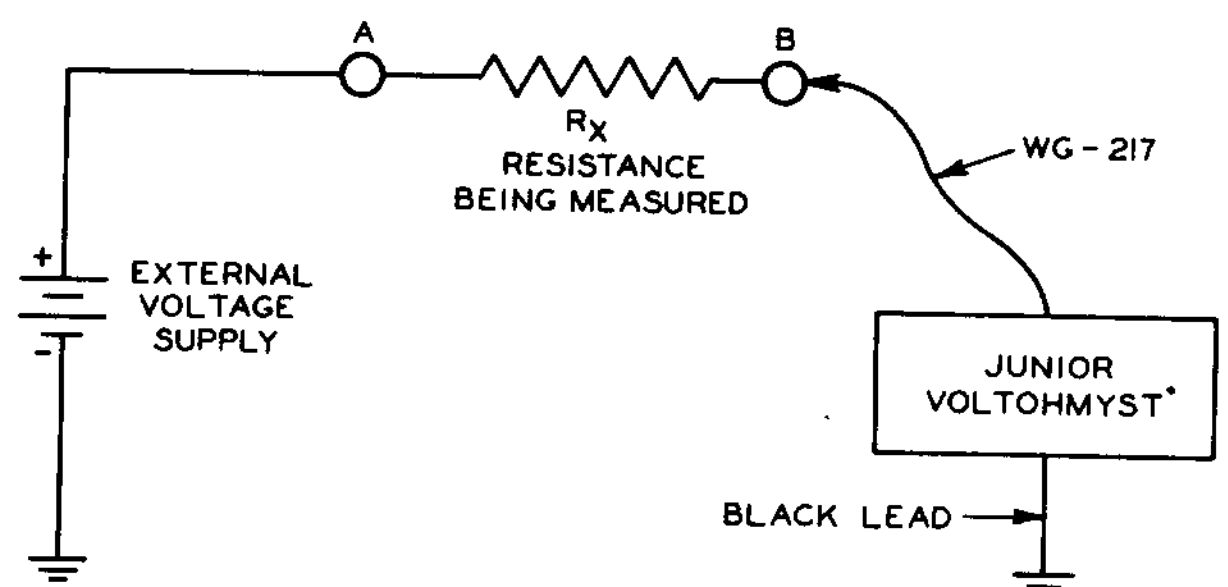

Figure 2. Circuit for measurement of resistance values above 1000 megohms.
The leakage resistance of small mica and paper capacitors is usually above 1000 megohms. The circuit shown in Fig. 2 can be used to measure resistance values above 1000 megohms. An external dc voltage
source between 20 and 500 volts is utilized to obtain a measurable pointer deflection. Make circuit connections as shown in Fig. 2 and proceed as follows:
An unknown resistance is to be determined with the circuit of Fig. 2. An external voltage of 500 volts is applied. The WV-77A measures 2.5 volts at "B", and 500 volts at "A". Then,
**Insulation-Resistance Measurements.** Current leakage through the insulating material of capacitors, coils, transformers, cables, and other components, can be measured with the WV-77A in terms of resistance. Values of leakage resistance above 1000 megohms can be measured with the circuit shown in Fig. 2.